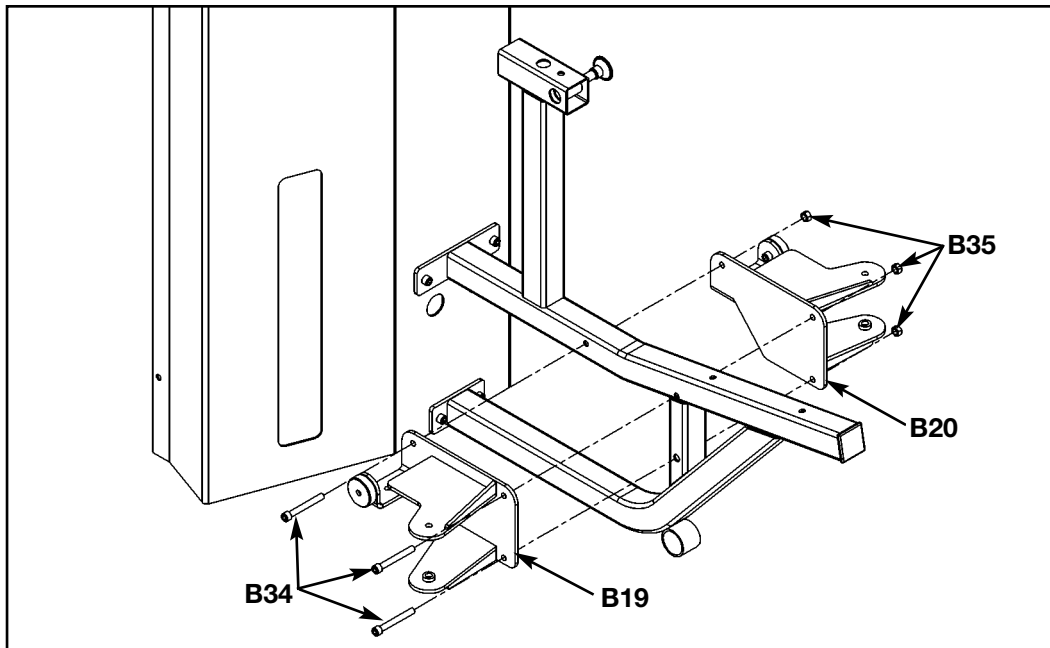

Figure 8
- D.** Install pivots (#B19 and #B20) using three SHCS .375-16 x 3.00 (#B34) and three nylon locknuts (#B35) as shown in Figure 8. Securely tighten hardware.